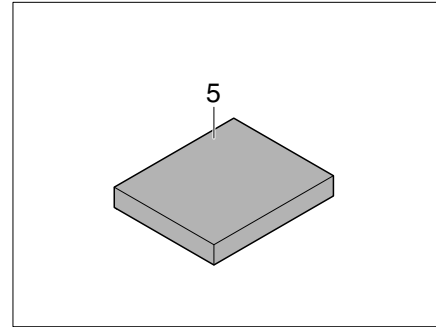

Fig. 195 Additional cushion
- Place the additional cushion (Fig. 195,5) in the middle of the table.